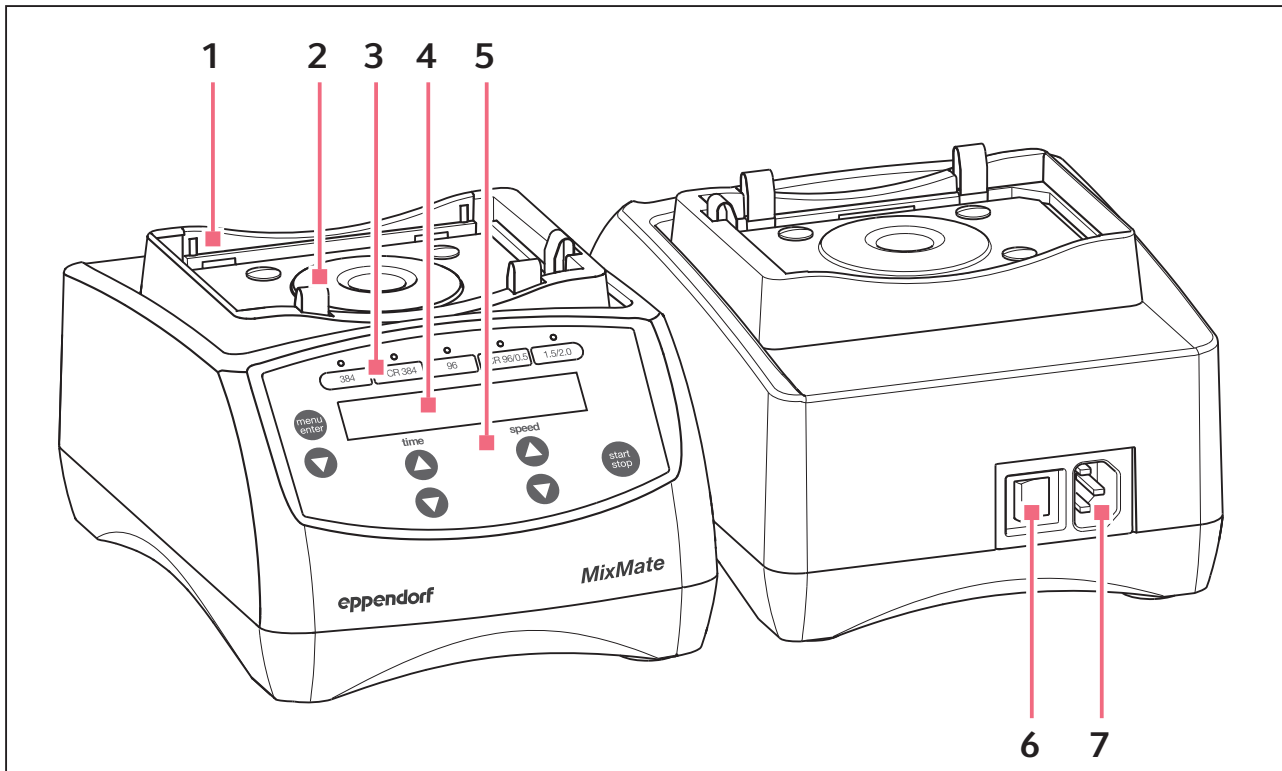

Fig. 3-1: Front and rear view
2. Connect the device to the mains power supply via the mains power socket **7** (see Fig. 3-1 on p. 12) using the mains cable supplied.
3. Switch on the device with the mains power switch **6** (see Fig. 3-1 on p. 12).